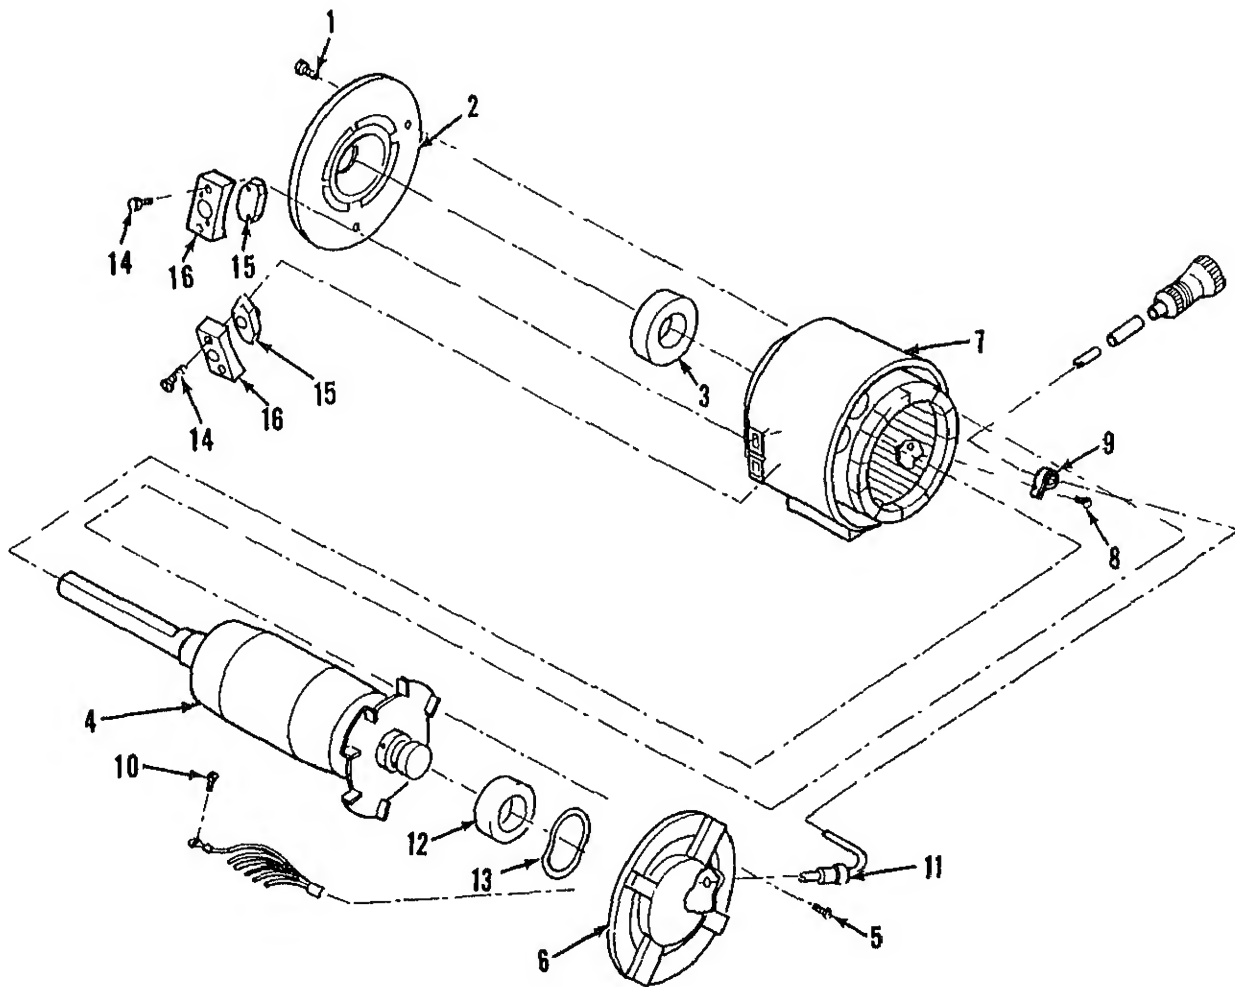

Figure 6-4. Fan motor exploded view
b. Disassembly. Refer to figure 6-4 and disassemble motor as follows:
(1) Remove four screws (1). Remove end bell (2).
(2) Remove end bell bearing (3).
(3) Remove rotor (4).
(4) Remove four screws (5). Remove end bell (6) from stator (7).
(5) Remove screw (8) and loop clamp (9). Remove screws (10) and remove cable (11) from motor.
(6) Remove bearing (12) and spacer (13) from end bell (6).
(1) Clean metal parts with cleaning solvent (Fed. Spec. P-D-680). Wipe off electrical parts with a clean cloth.
(2) Inspect wiring for damaged insulation and broken wiring. Repair damaged insulation.
(3) Inspect connector for damage.
(4) Inspect bearing for wear, galling or flat spots. Replace defective bearings.
(5) Inspect shaft for gouges or worn bearing surface. Repair minor defects.
(6) Inspect stator for damaged, broken or shorted wiring.
d. Assembly. Refer to figure 6-4 and assemble motor as follows:
(1) Install thermal protectors (15), housing (16), and screws (14), as described in paragraph 4-20 and 4-22.
(2) Install spacer (13) and bearing (12) in end bell (6).
(3) Install cable ends using screws (10).
(4) Attach end bell (6) to stator (7) with screws (5).
(5) Attach cable (11) to stator (7) with clamp (9) and screws (8).
(6) Install rotor (4) in motor.
(7) Install bearing (3) in end bell (2).
(8) Attach end bell (2) with screws (1).